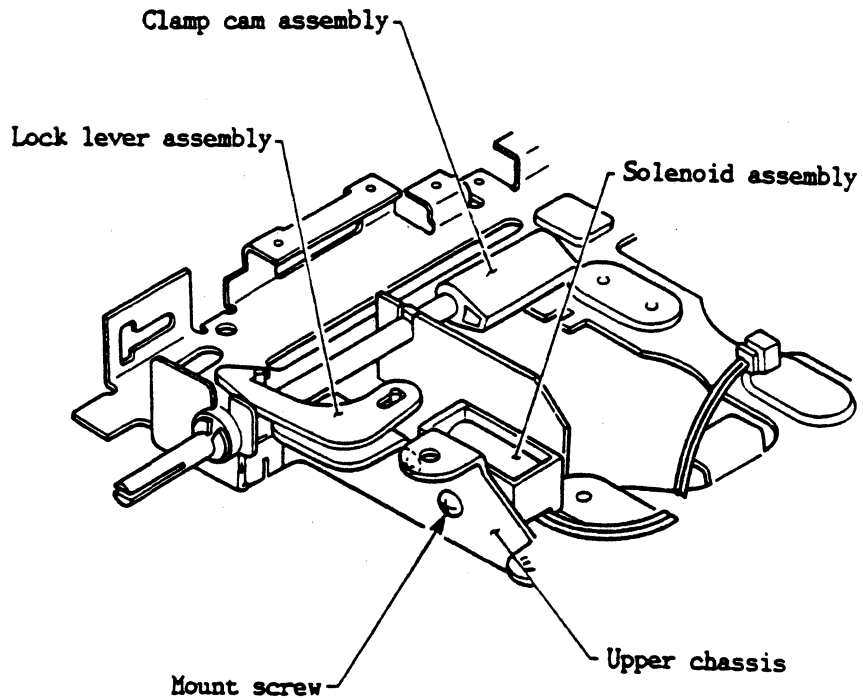

Figure 4-27 Door Lock Solenoid
1. Remove the shield cover (item 44).
4. Remove the mounting screws and the door lock solenoid (item 39). Refer to Figure 4-27.